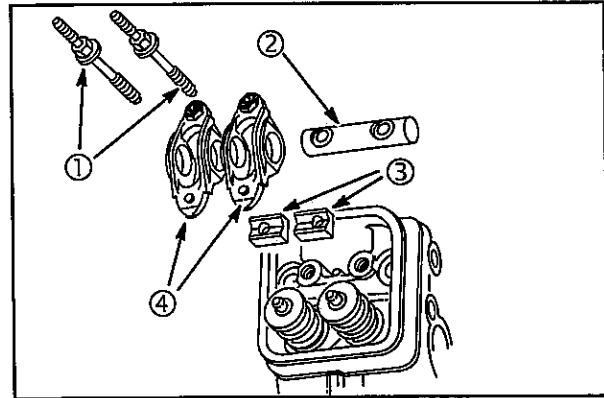

Fig. 22
NOTE: Rocker shaft support (3) holes are offset. Install with holes facing ends of rocker shaft, **Fig. 22**.
1. Lubricate rocker arms (4) and shaft (2) with clean engine oil.
2. Assemble rocker arms, shaft, supports and studs (1) and install on cylinder head, **Fig. 22**. Torque studs to 140 in. lbs. (16 Nm).